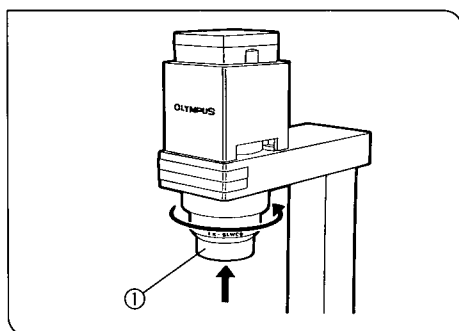

Fig. 31
2. Insert the threaded portion of the condenser ① into the illumination column and turn the lens in the direction of the arrow until it comes up against the bracket and is firmly seated. (Fig. 31)